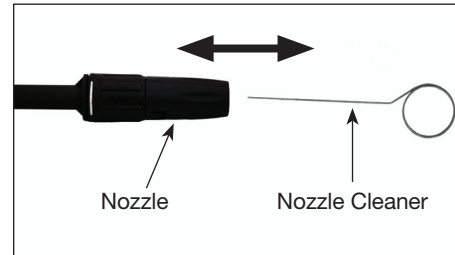

Figure 14
- Using the included nozzle cleaner, or an un-folded paper clip, insert wire into the nozzle hole and move back and forth until debris is dislodged (refer to Figure 14).